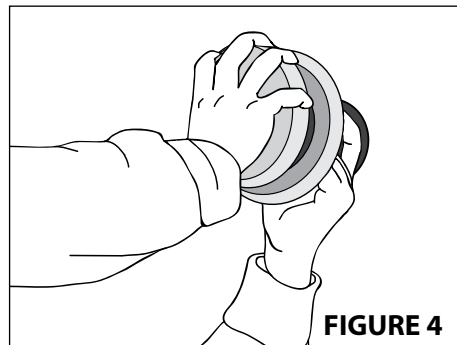
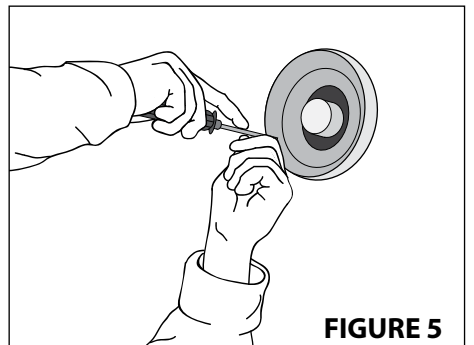

FIGURE 4
FIGURE 5
4. Unscrew the interior valve cover, exposing the three countersunk screw locations on the mounting flange. **See Figure 4.** Mount the flange section using the screws provided. **See Figure 5.** Screw the valve cover back on the mounting flange until the first clicking sound is heard. (**NOTE: DO NOT OVERTIGHTEN VALVE COVER.**)